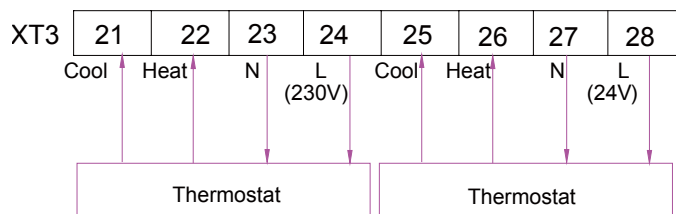

Fig .1
- (1) Uncover the front cover of the indoor unit and open the control box.
- (2) Identify the power specification of the thermostat, if it is 230V , find terminal block XT3 as NO.21~24 or NO.23~26; Otherwise, if it is 24V, find terminal block XT3 as NO.25~28 or NO.27~30;
- (3) If it is Heating/Cooling thermostat, please connect wire as Fig 1 ;